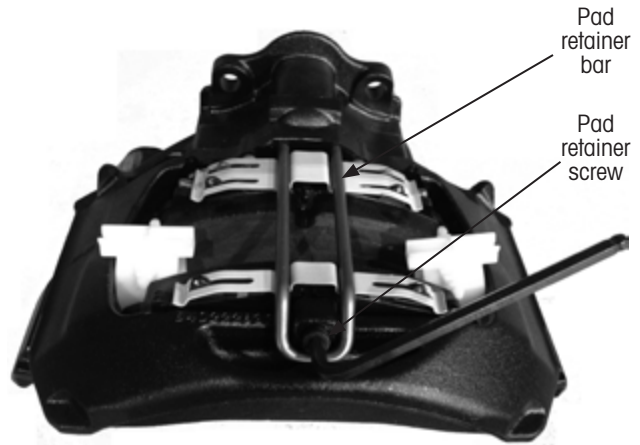

Figure 16: Removing pad retainer screw
2. **Loosen** the pad retainer screw from the brake caliper (Figure 16). Refer to APPENDIX A: WRENCH SIZE AND TIGHTENING TORQUES on page 36, Item II. Apply slight pressure on the pad retainer bar with your hand at the same time.